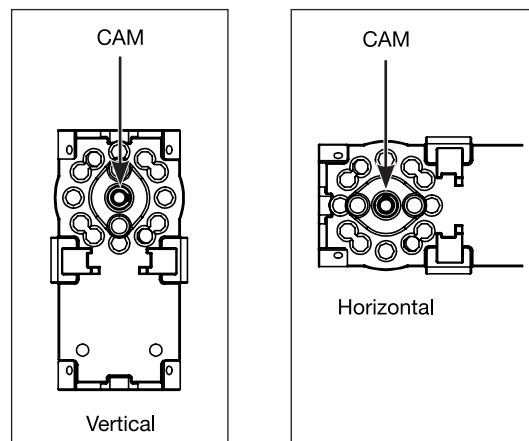

Figure 15
- Cams must be oriented as shown based on desired paddle orientation. (Figure 15)